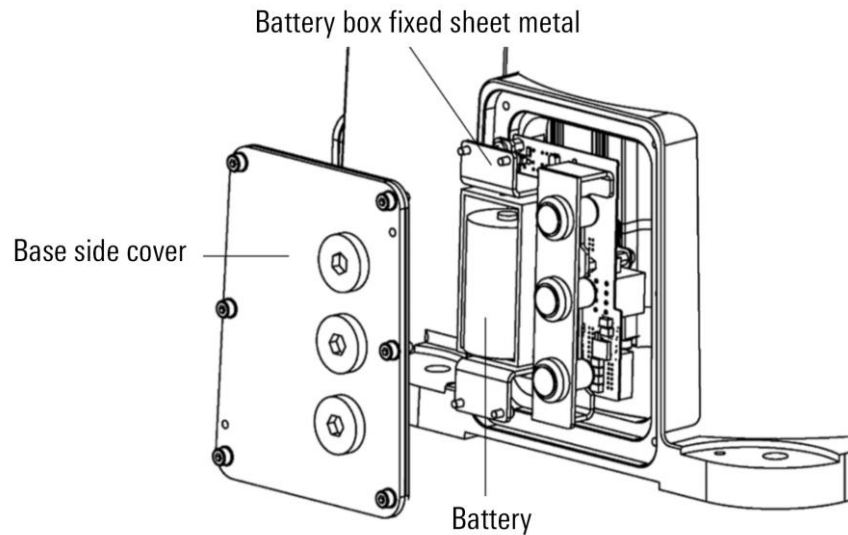

Figure 12-4 Battery replacement diagram
- Step4. Remove the battery box fixing sheet metal from the right cover plate to reveal the battery, as shown in Figure 12-4.